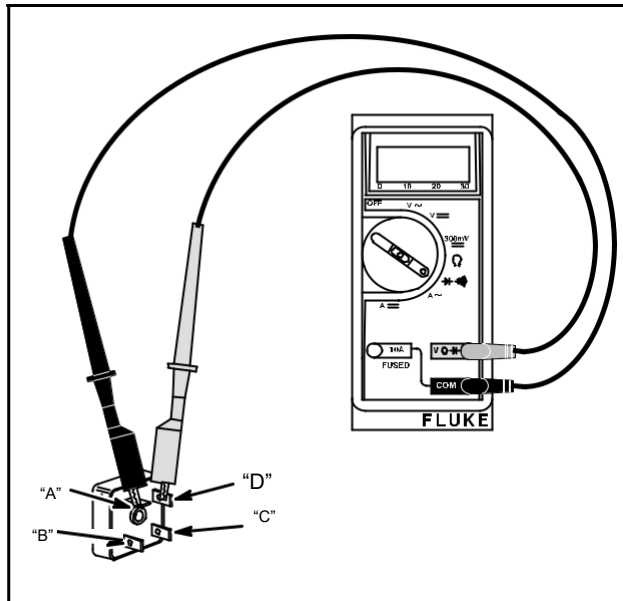

Fig. 705 – TESTING RECTIFIER
4. Using test leads, place RED test lead and BLACK test lead on rectifier terminals in sequence shown in Fig. 705, and Table No. 49.